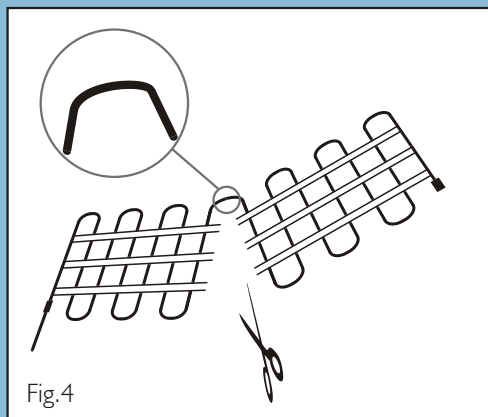

Fig.4
- cannot be cut or nicked - only heating cable spacing/connecting tape can be cut to achieve desired shape as per fig. 4.